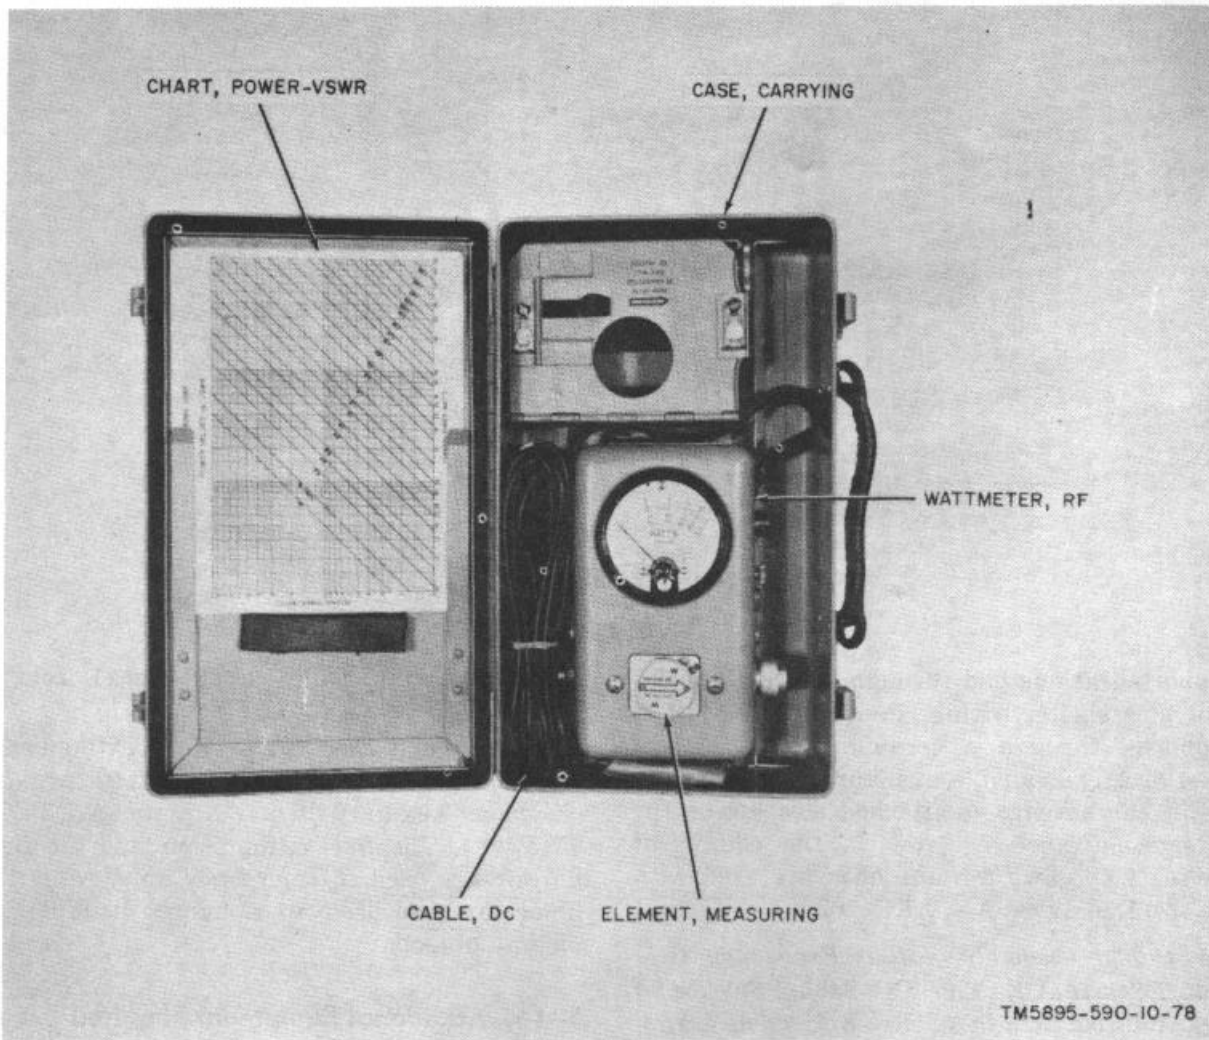

Figure 1-30. Test Set, Radio Frequency Power AN/USM-298.
u. Test Set, Radio Frequency Power AN/USM-298 (fig. 1-30 and 3-23). The RF wattmeter is a portable unit carried in an aluminum carrying case which also carries the direct current (dc) cable, the power-vswr chart, and measuring elements. A microammeter is shock-mounted within the housing. A slotted adjustment screw allows zero setting of the meter. Below the meter is a rectangular aperture through which projects the top face of a line section casting with a measuring element socket in the center. A special cable connects the microammeter to the dc jack at the side of the line section, and to the external jack on the upper right-hand side of the housing. By this arrangement, the microammeter can be attached to an auxiliary RF line section mounted permanently on the SB-3181/FSQ-75(V) and SB-3182/FSQ-75(V) panels (*c* and *f* above) in the equipment racks.